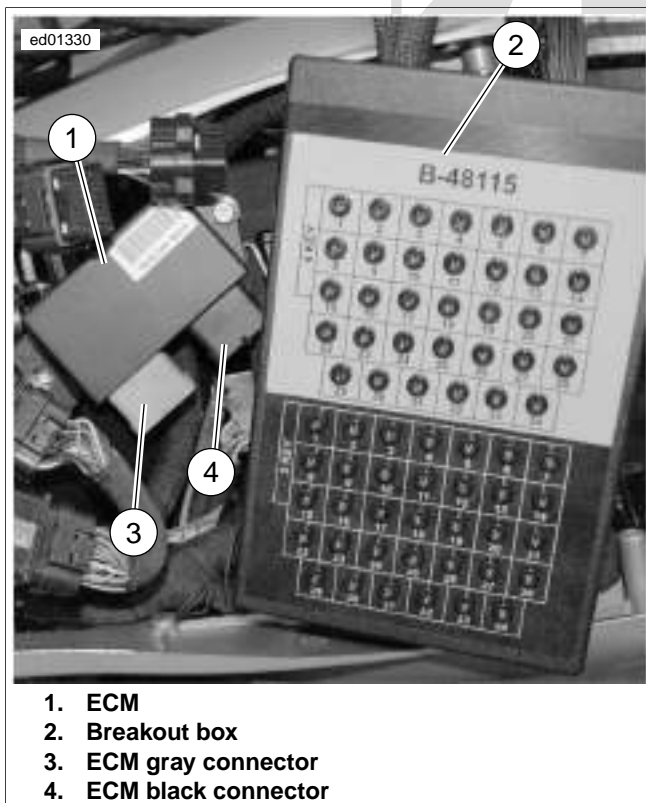
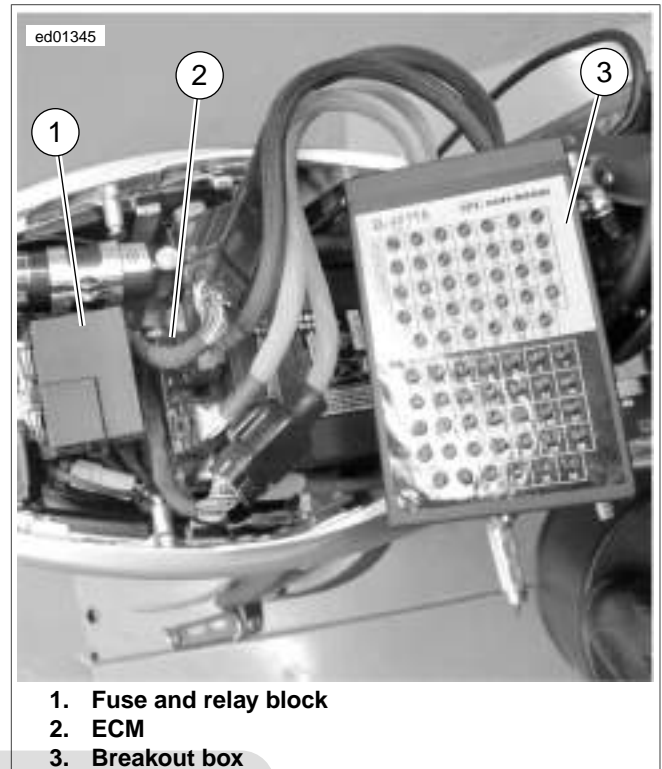
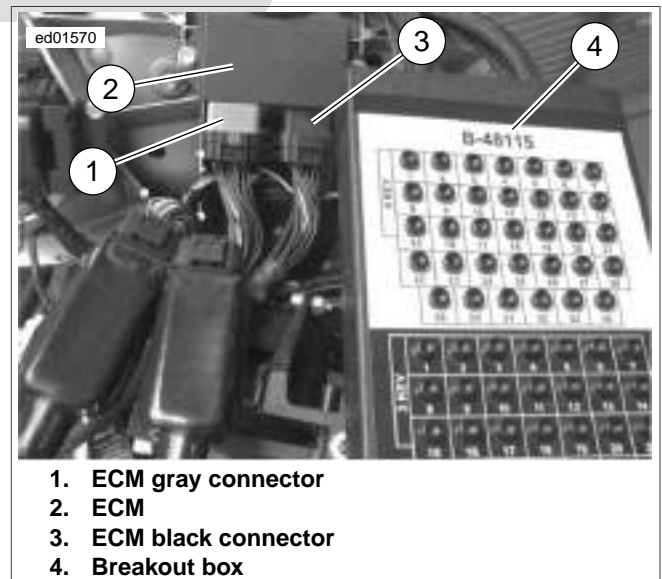

Figure 2-9. ECM and Breakout Box with Connections (Ulysses)
Figure 2-10. ECM and Breakout Box with Connections (Lightning)
Figure 2-11. ECM and Breakout Box with Connections (Firebolt)
- See Figure 2-9, Figure 2-10 and Figure 2-11. Attach Breakout Box to black connector [10].
- See Figure 2-9, Figure 2-10 and Figure 2-11. Depress latches on each side of connectors [10] (black) and [11] (gray).